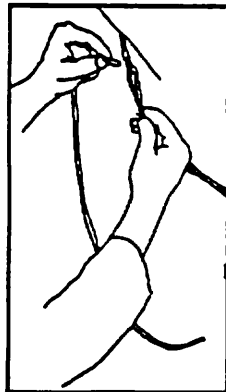

Figure 19
b) To pull the crossbar back by hand, first thread the perlon line attached to the xbar wire around the horizontal bolt in the center of the control bar apex (streamlined downtubes), or around the top of the downtube (round downtubes) and then back through the thimble on the crossbar pull back wire and pull back on the perlon to pull the crossbar back. When you have the crossbar back far enough to attach the crossbar restraint cables, wrap the perlon line around the top of the downtube and temporarily tie it off. (Figure 19, 20)